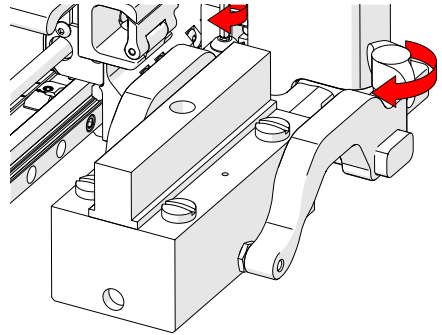

Fig. 52 - Pivot buttons
- Tighten the probe holder adjustment knob and the arm clamp screw (Fig. 52) while ensuring the wedge remains centred with the yoke.